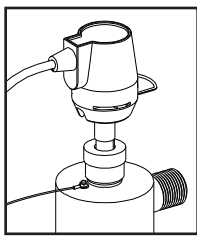

FIGURE 2D
4. Once the lamp is fully seated on the connector, slide the connector over the retaining nut. Make sure the metal retaining ring on the connector is pulled away from the body of the connector in order that the connector may slide fully over the retaining nut. Once the connector is located fully over the retaining nut, slide the metal ring back in to lock the connector in place (Figure 2E). As this connector is keyed to the reactor chamber, make sure the notch on the connector (Figure 2D) is located over the ground lug located on the reactor chamber.